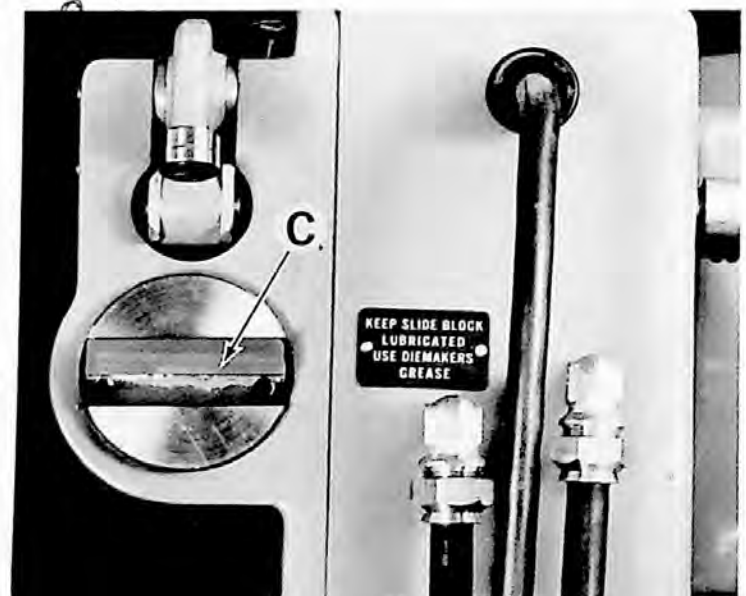

Figure 47 — Knockout Guide Bar
**KNOCKOUT ARM GUIDE BAR "C"**, Figure 47, is a solid carbide strip. To insure proper operation of arm, it should be kept lubricated with Die Makers Grease. Clean guide bar daily and re-lubricate.